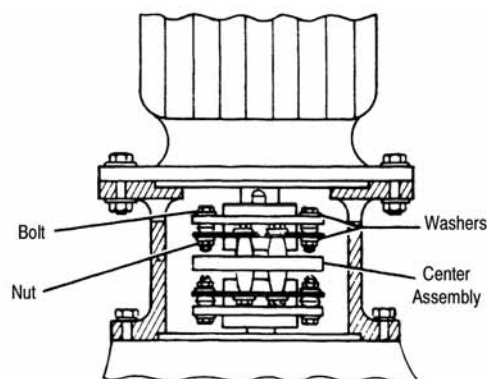

Figure 10. Final Assembly
- (e) Assemble the center assembly to the hubs using the bolts, nuts, and washers provided, keeping the proper order of parts as noted in step (a). (See Figure 10).